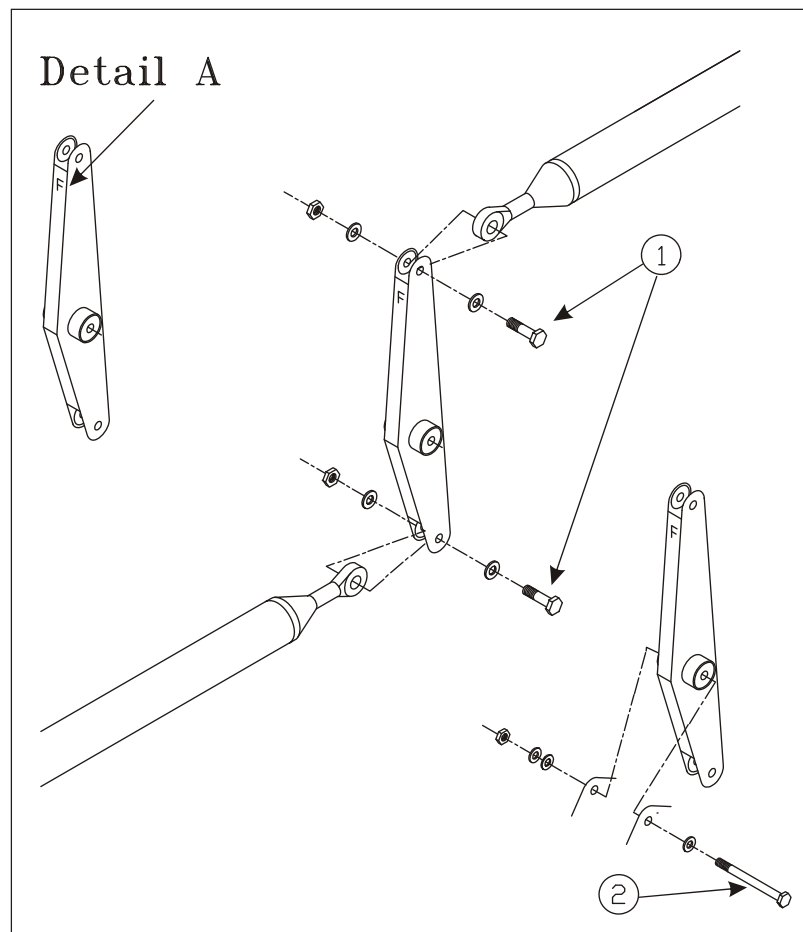

Figure 8
Refer to Figure 8. All control rods are attached to the control levers in the same way with LN bolts, washers and self-locking nuts. The control rods inside the wing are interconnected by ground bonding leads fastened to the rod ends by additional nuts. So the rod ends have to be disassembled, when the ground bonding leads shall be disconnected. In this case also refer to the *Length Adjustment* Paragraph of this Chapter.
Refer to Figure 8.
- 3 Remove the M5 attachment bolt (2).
- 5 Reverse procedure to install the bellcrank using sufficient washers (min. 2) at the nut side of the bolt to cover the shank (except the rocker type bellcrank: use only one washer on each side). Replace the selflocking nuts. Observe the first Note of Chapter 27-00-00 and Figure 3. To ensure installation of the elevator rocker type bellcrank in correct direction this bellcrank is marked by an "F" which indicates the front side (refer to Detail A of Figure 8).